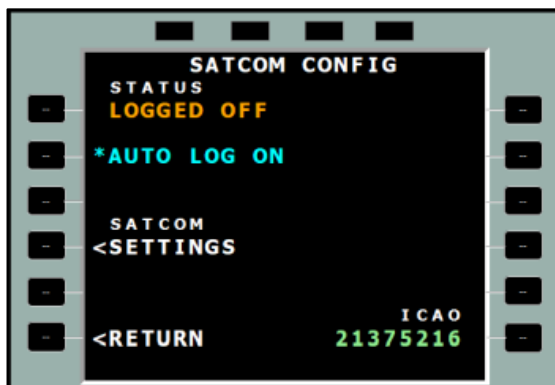

Figure 6-1: MCDU - SATCOM Config - Auto Log On
- a. Pressing AUTO LOG ON from the SATCOM CONFIG page (Figure 6-1).